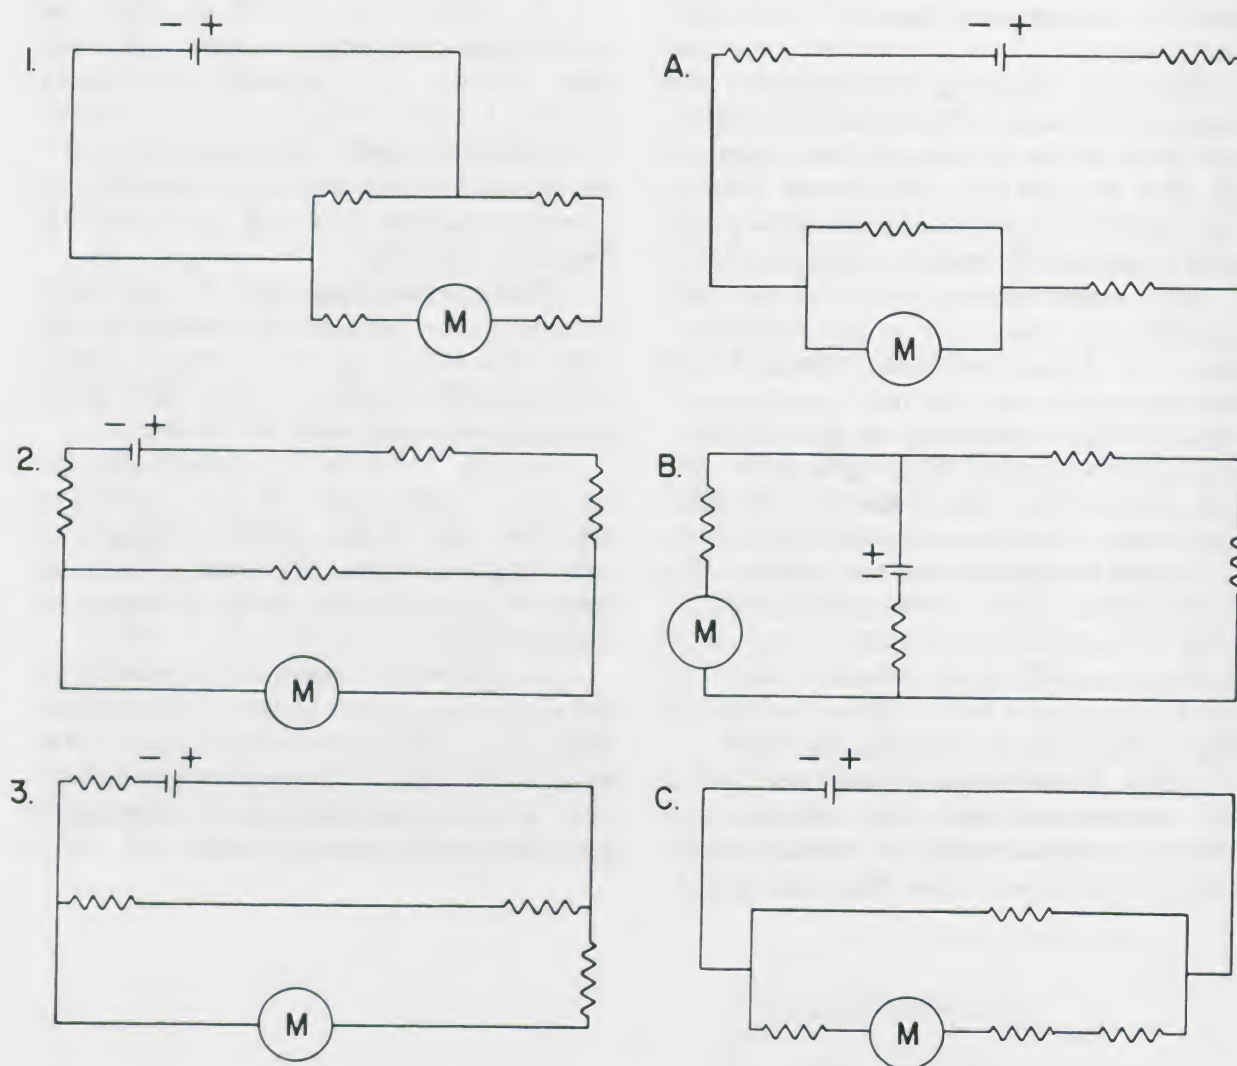

Figure 15.
1. In the circuits shown in Figure 15, all meters are identical, all resistors are 10